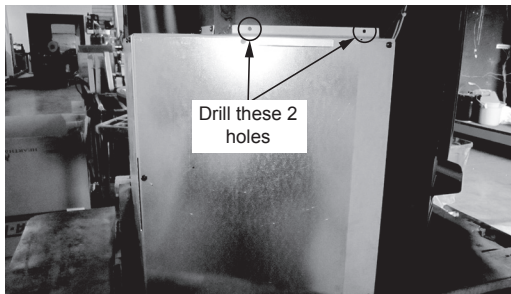

Figure 22.1
12. Using the electric drill with #26 drill bit; drill 2 holes into the left side of the hopper. Add two screws to secure shroud assembly to the appliance (Figure 22.1).